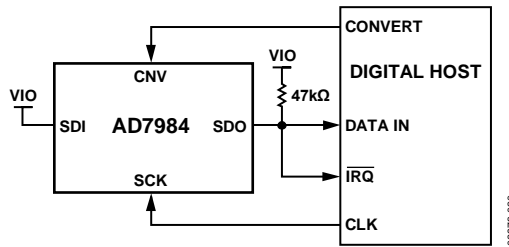
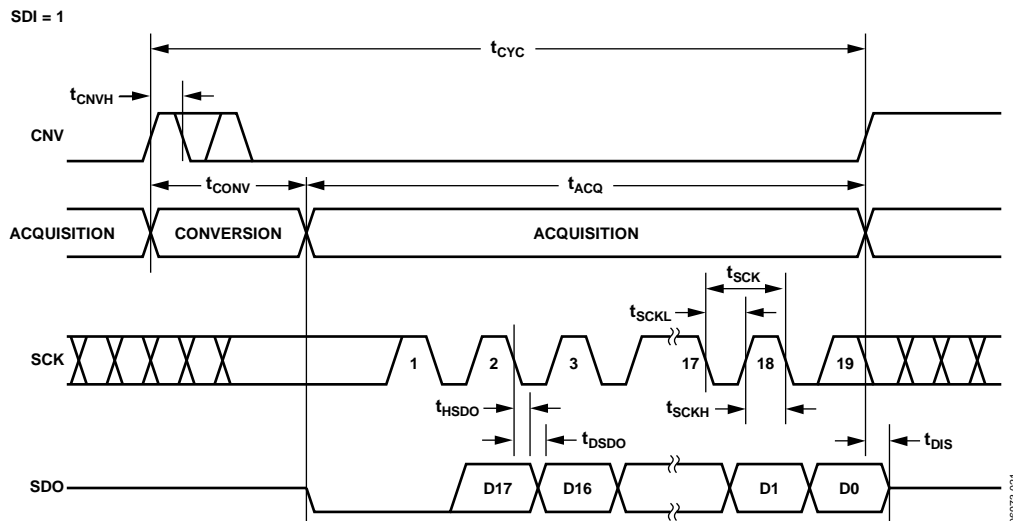
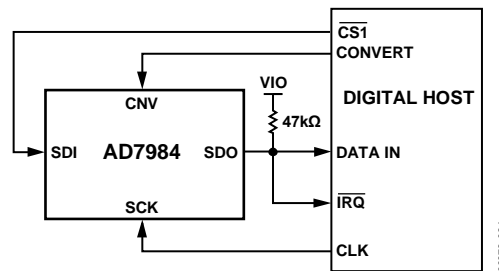
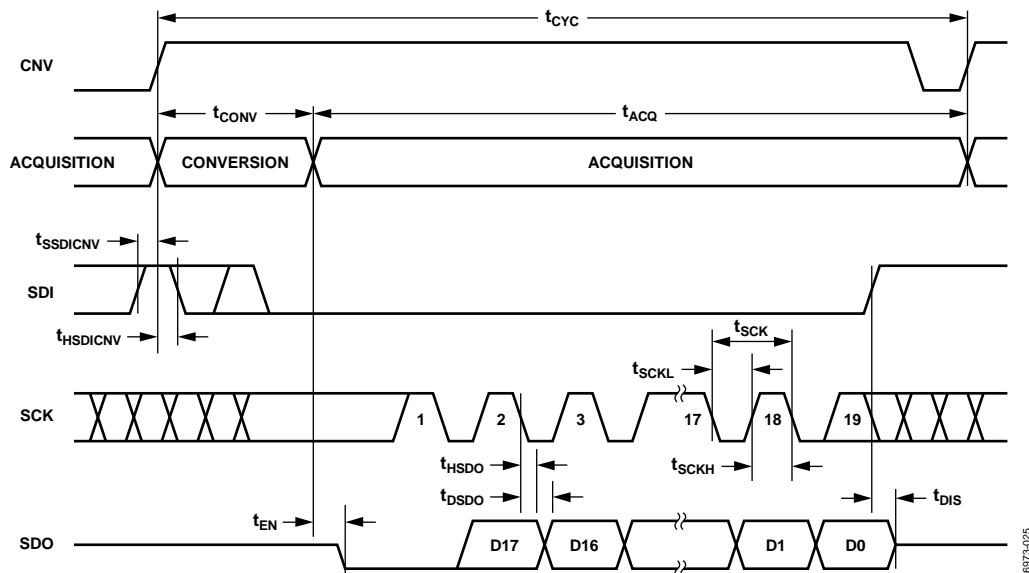

Figure 29. \overline{CS} Mode, 3-Wire with Busy Indicator Connection Diagram (SDI High)
Figure 30. \overline{CS} Mode, 3-Wire with Busy Indicator Serial Interface Timing (SDI High)
Figure 33. $\overline{\text{CS}}$ Mode, 4-Wire with Busy Indicator Connection Diagram
Figure 34. $\overline{\text{CS}}$ Mode, 4-Wire with Busy Indicator Serial Interface Timing
- In $\overline{\text{CS}}$ mode if CNV or SDI is low when the ADC conversion ends (see Figure 30 and Figure 34).
The connection diagram is shown in Figure 29, and the corresponding timing is given in Figure 30.
The connection diagram is shown in Figure 33, and the corresponding timing is given in Figure 34.